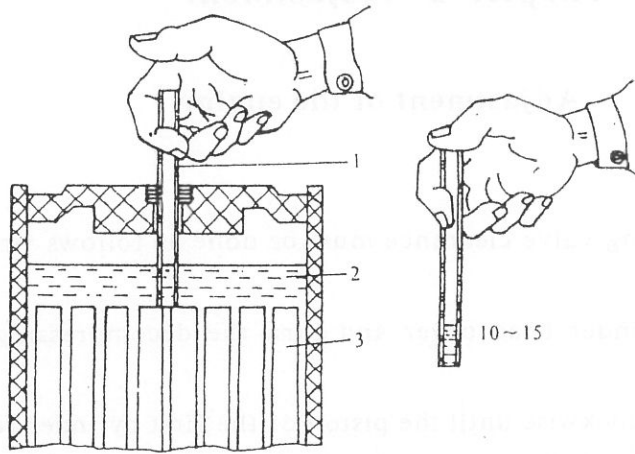

Fig. 2—8 Checking the electrolyte level
c. Check the height of electrolyte level periodically (Fig. 2—8). The height of electrolyte level is within 10—15mm in the measuring tube. If the electrolyte is below that level, and distilled water. In case electrolyte overflows under unusual conditions, the electrolyte mixed with reference to local temperature can be added.